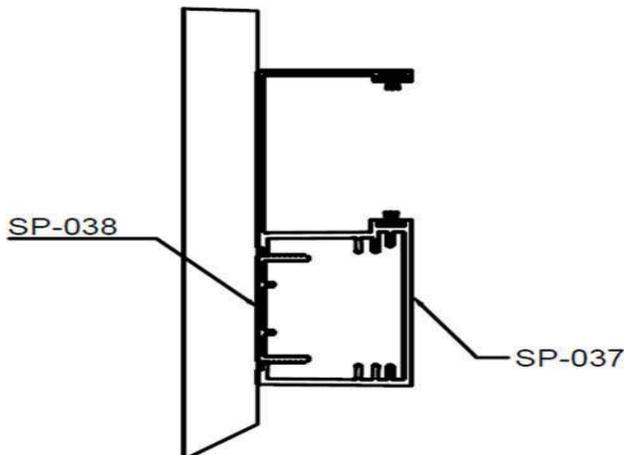

Figure 2: Detail Drawing 50
Step 2: Install base setting channel to both sides of opening (see fig. 2).